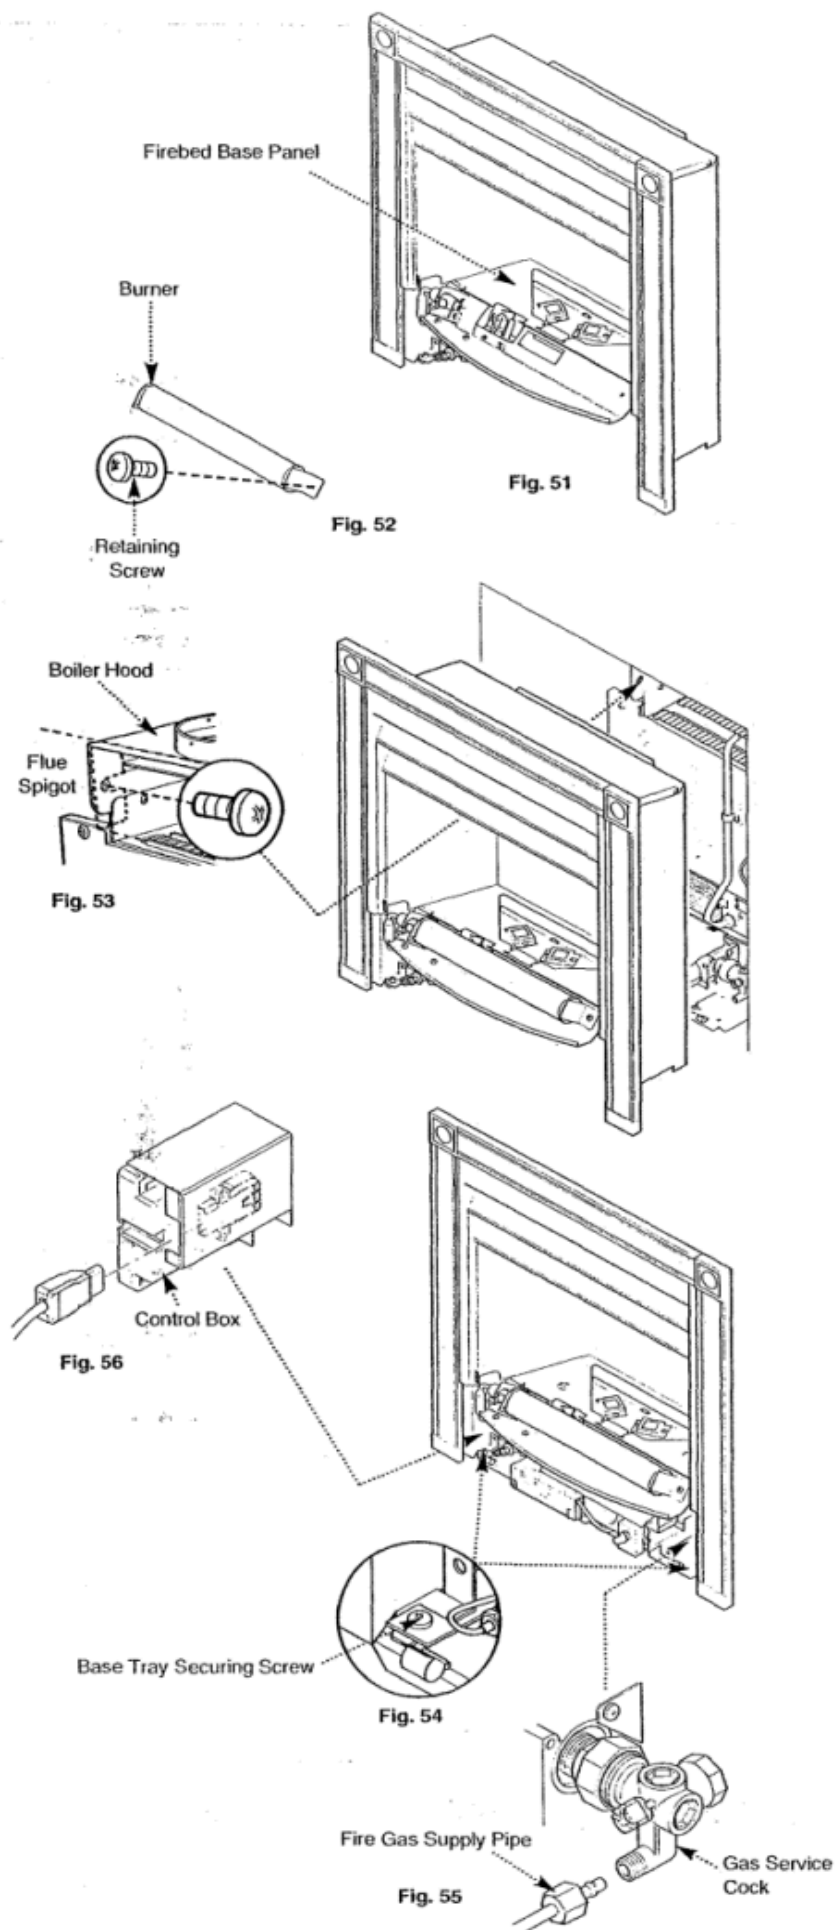

Fig. 51,52,53,54,55,56
1. Remove any deposits from the firebed base panel (Fig. 51).